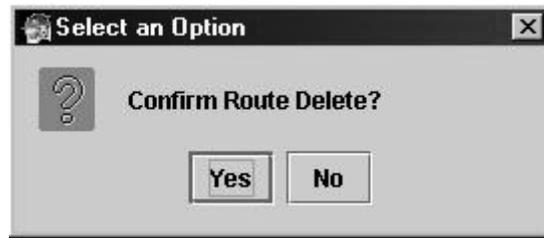

Figure 8-22: Confirm Delete IISP Route Dialog
2. Click **DELETE**. The Select an Option dialog displays. See Figure 8-22.